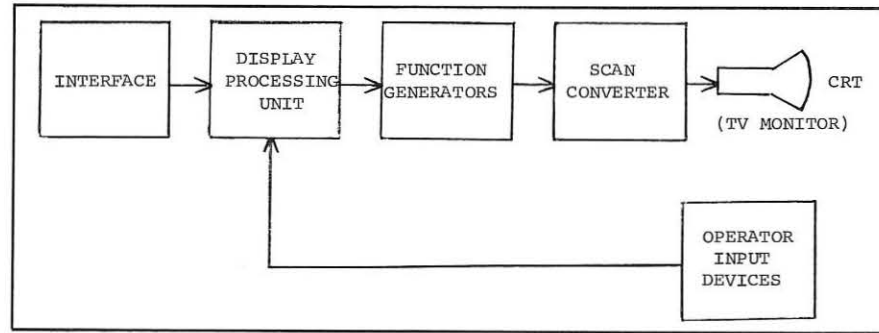

Figure 8. TV/Scan Converter
7. *TV/Scan Converter* (Figure 8)